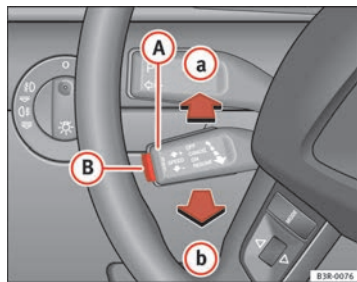

Fig. 152 Controls for the cruise control system
- Press the lever **A** ⇒ fig. 152 to position **a** (click stop not engaged).